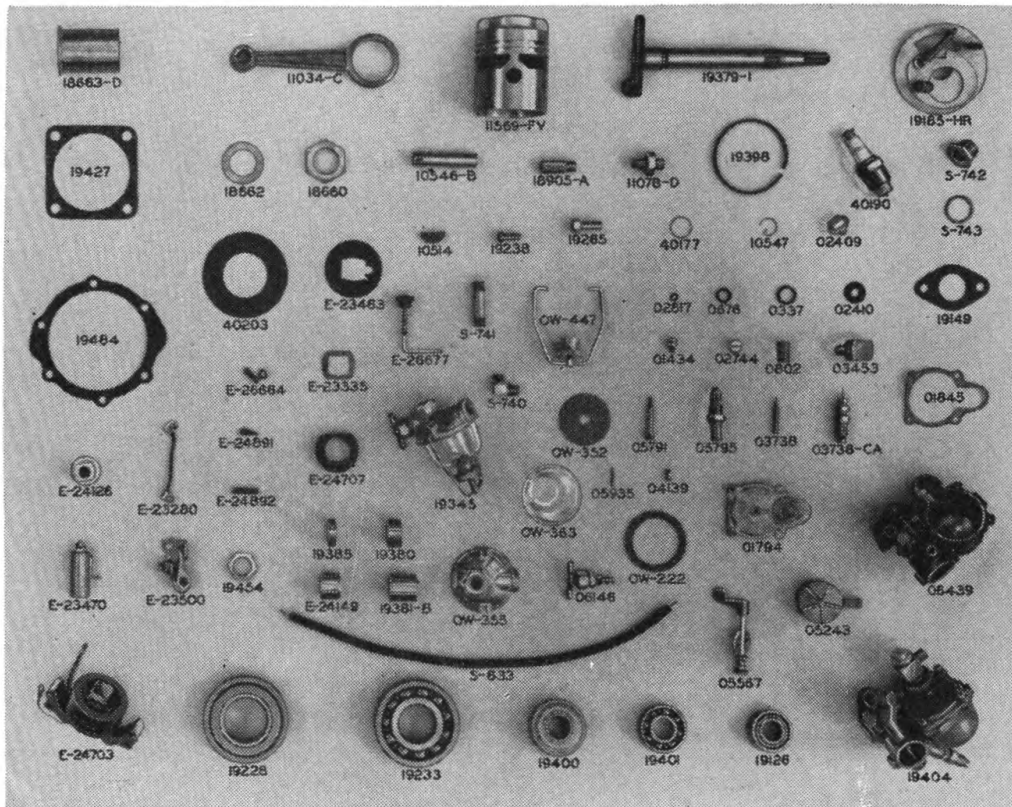

FIGURE 27.—Engine parts.
20. Engine parts (figs. 27 and 28).